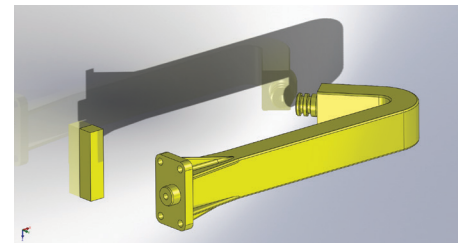

Figure 23: Original CAD model of robot gripper arm with reference feature at 0,0,0.
2.6.1.1. Create CAD model of tool (Figure 23).